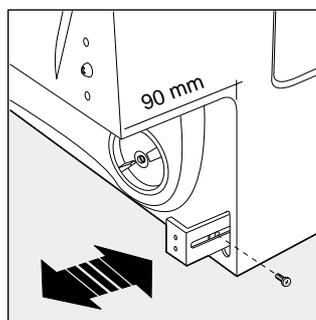

Fig. 16
- If the machine is installed at the end of a set of modular cabinets, mount either one or both of the guides for the base molding (as shown in fig. 16) with the type **F** screws. Adjust them for depth based on the position of the base molding, and, if necessary, fasten the base to the guides.